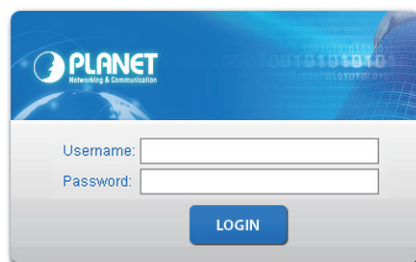

Figure 5-2: Web Login Screen
2. When the following dialog box appears, please enter the default user name and password "**admin**". The login screen in Figure 5-2 appears.